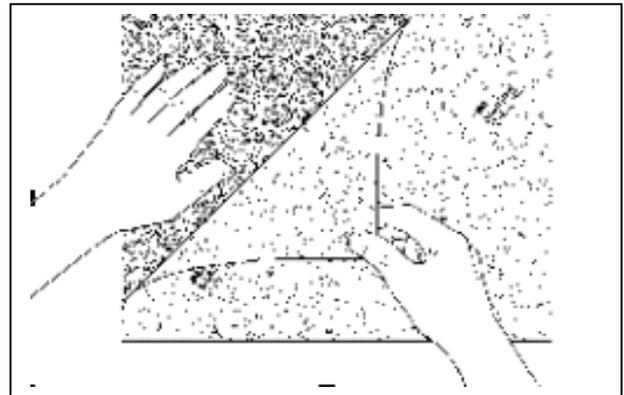

Figure 1. Pulling Off A Liner
3. Remove only as much liner as required for your application method. The procedure for removing the liner, whether just a small part of it or the entire liner is to pull it away from the graphic at a 180 degree angle with a smooth continuous motion. See Figure 1.